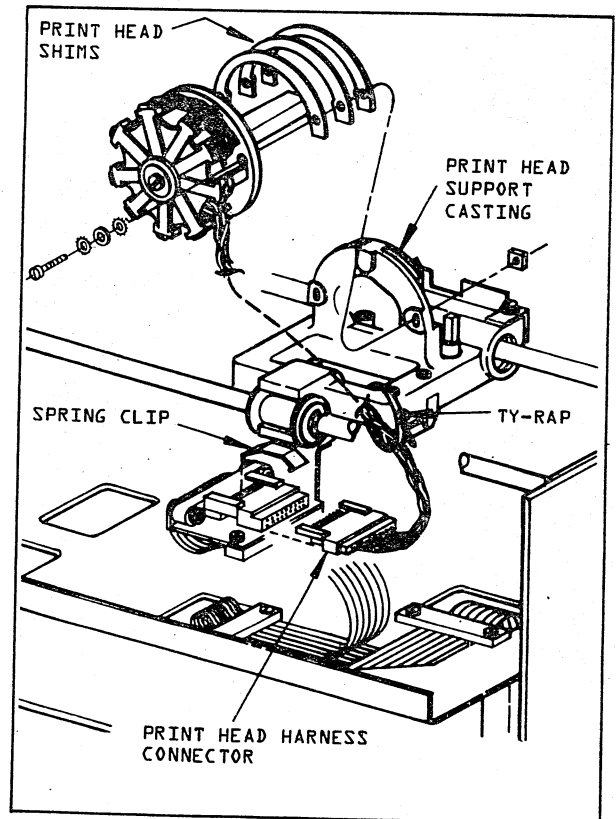

FIGURE 8-1. PRINT HEAD REPLACEMENT
Removal (Figure 8-1)
Installation (Figure 8-1)
1. Remove the spring clip that clamps the print head harness connector to the print head flat cable assembly connector (Figure 8-1). Unplug the print head harness connector.